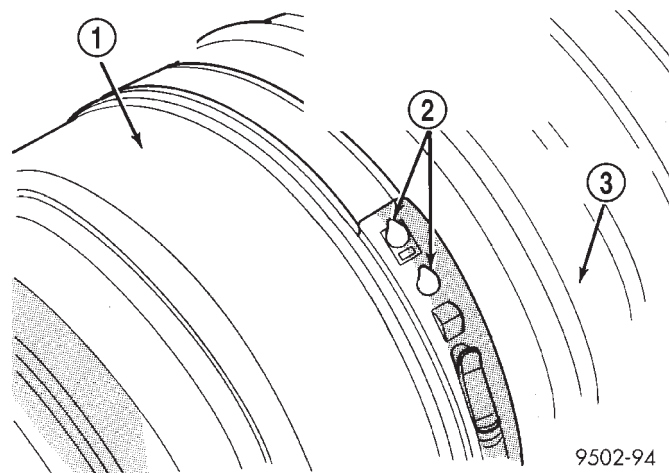

Fig. 40 Sealing Boot Clamp Correctly Installed
- Squeeze tool together until top band of clamp is latched behind the two tabs on lower band of clamp (Fig. 40).
(13) Install the driveshaft back on the vehicle. See Servicing Driveshaft, for the required driveshaft installation procedure.